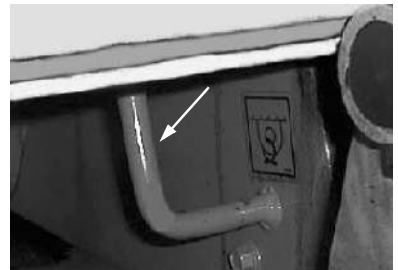
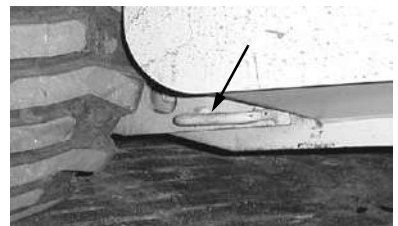

Figure 27 Front Tie-Down
Figure 28 Rear Tie-Down
5. Fasten the loader to the hauling vehicle at the points indicated by the tie-down decals (Figure 27 and Figure 28).